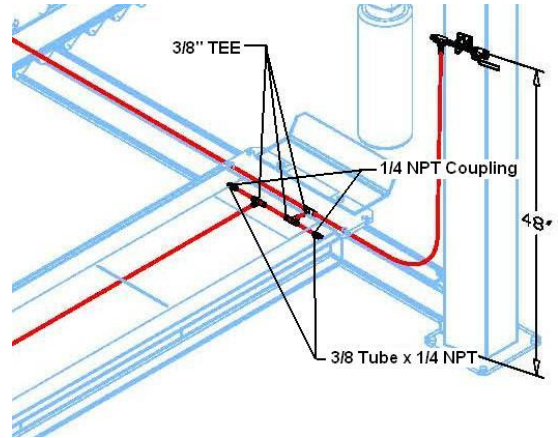

Figure 3
6. Route the 3/8" tube from the push lock fitting on the pneumatic bracket assembly on the power unit column to the angle or tube welded to the front crossbeam **Fig 3**.
7. Inside the front passenger side runway install (3) tees and (2) 3/8" tube x 1/4 NPT push lock fittings to the 1/4 NPT couplings welded to the runway, shown in **Fig 3**.